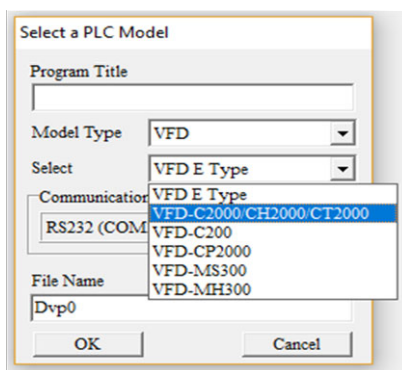

Figure 16-6
Step 4: The “Device settings” window will appear after clicking, see figure 16-6 below. You can now enter the project title and filename, and select the device and communication settings to be used.